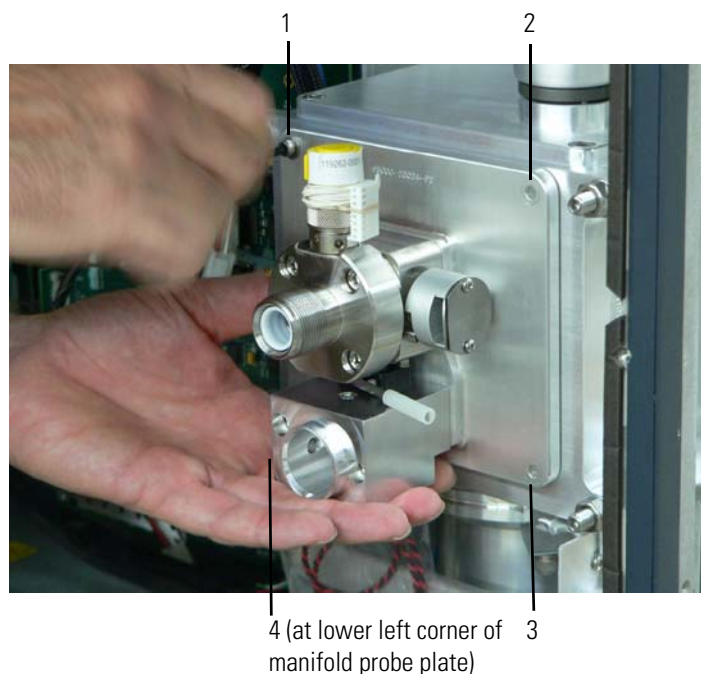

Figure 6-30. Unscrewing the vacuum manifold probe plate
- e. Remove the four screws holding the vacuum manifold probe plate (Figure 6-30 and item 10 in Figure 6-27 on page 6-37). Support the plate with your hand as shown in Figure 6-30. Arrows point to the four hex screw locations (items 1–4).